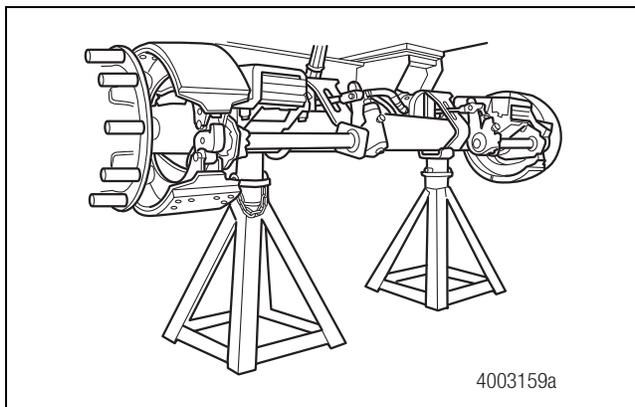

Figure 3.1
4. Place safety stands under the trailer frame or under each axle spring seat. Figure 3.1.